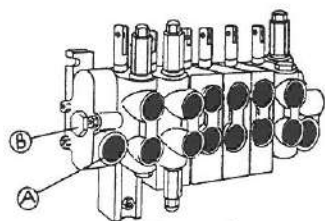
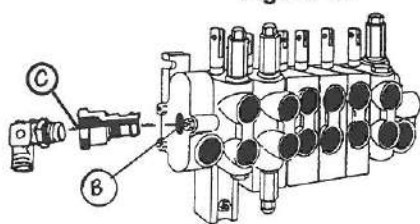

Figure 1a
Figure 1b
- A. Remove return hose and elbow; only if it was installed at Point B (Figure 1b).
- B. Install Power Beyond sleeve at Point B (Figure 1b).
- C. Install a #8 O-Ring elbow (Part #SFT272) into closed center sleeve opening Point C (Figure 1b). This converts it to a power beyond sleeve.
- E. If the return hose was installed at Point B (Figure 1b) it must be installed at Point A (Figure 1a) of the outlet section. Remove the O-Ring plug and install one C5315 8x10 adapter (Part # SFT10079) and one C5506 swivel nut elbow (Part # SFT271). Connect the return hose to the elbow and the other end to the oil sump of the tractor.